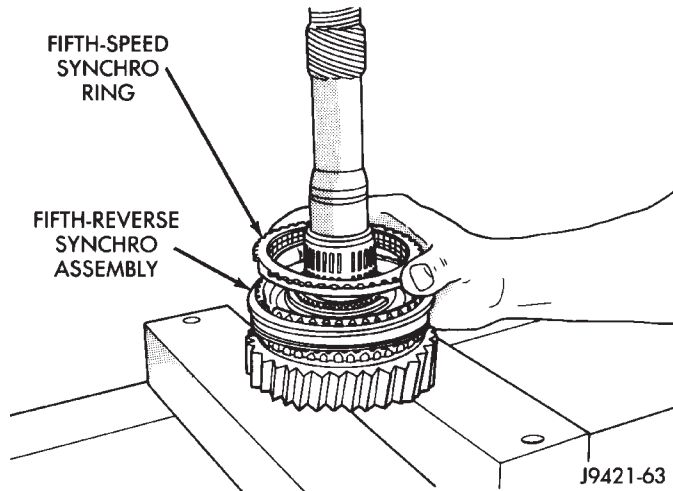

Fig. 58 Installing Fifth Gear Synchro Ring
(10) Install fifth gear synchro ring in synchro hub and sleeve (Fig. 58).